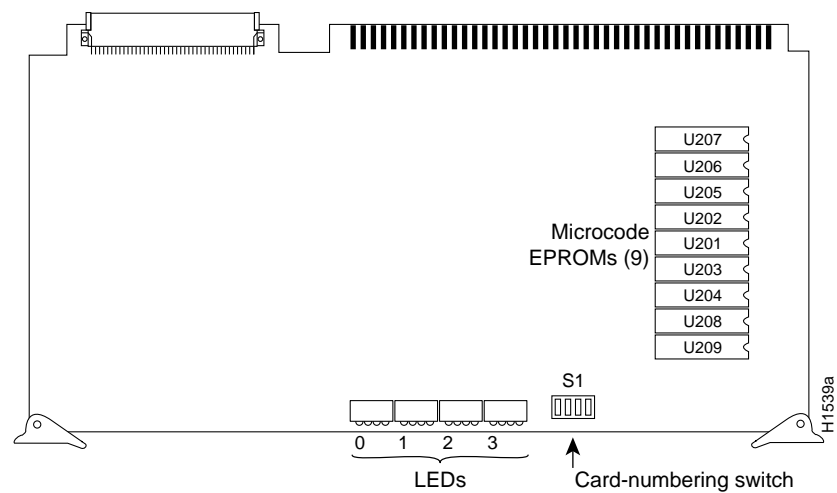

Figure 5-25 CSC-CCTL ciscoBus Controller Card—Component-Side View
- CSC-CCTL ciscoBus controller card, Figure 5-25